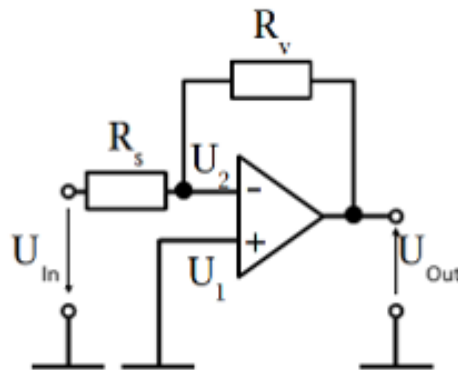

Figure 4: Inverting OPAMP
Then the current flowing through R_v and R_s : $I = 454\mu A$. $U_{Rv} = I \cdot R_v = 454\mu A \cdot 22k\Omega = 10V$ U_{Rv} is negative with respect to the virtual earth, so $U_{out} = -10V$. $A_{uv} = U_{out}/U_{in} = 10V/1V = 10$ The parameters of the circuit shown in Fig 4 (A_{uv} the feedback voltage amplification):
- M1: Build an inverting configuration (Figure 4) with a $\mu A741$ operational amplifier! $R_v = 470 \text{ k}\Omega$, $R_s = 100 \text{ k}\Omega$. The input signal is DC 100 mV, which you should increase in 100 mV steps until the amplifier output goes into saturation. Determine the gain based on the measured data and verify it by calculation as well!